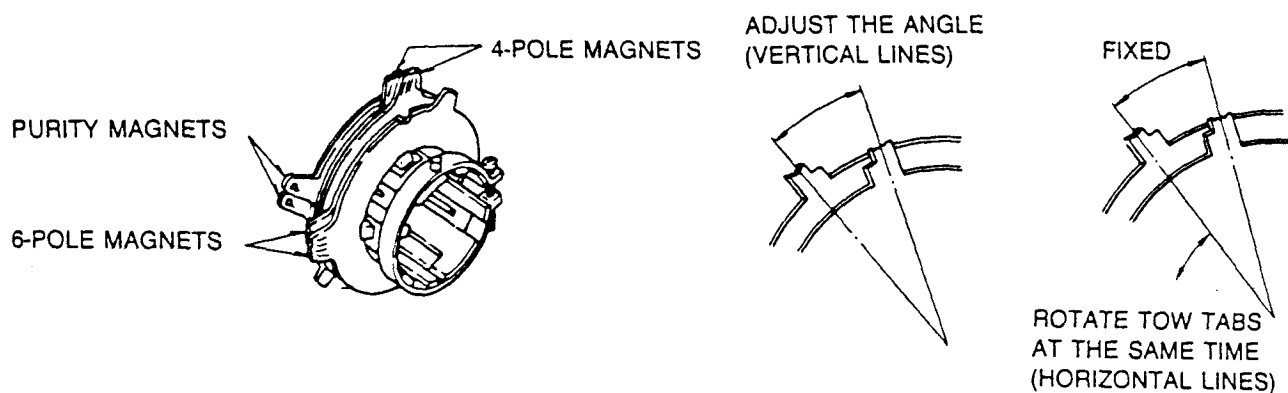

Figure 15
3. Adjust two tabs of the 4-pole magnets to change the angle between them (See figure 15) and superimpose the red and blue vertical lines in the center area of the picture screen. (See figure 16.)